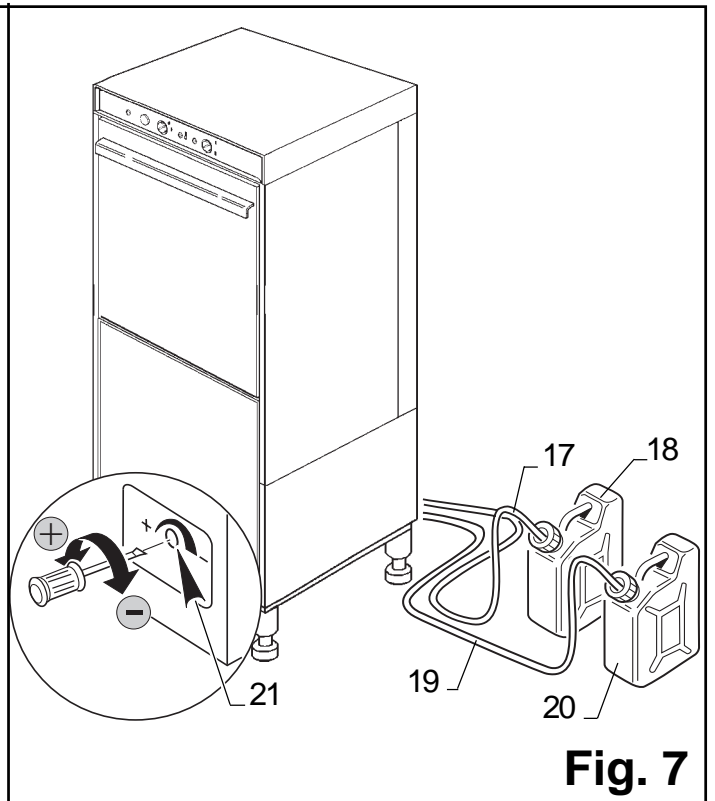

Fig. 7
- Insert the transparent tube (19) into the cannister (20) containing rinsing agent. (Refer to the specific instructions given with the rinsing agent itself).
3.2.a Adjusting the dose (Fig. 7)
- Regulate by means of the plug (21), turning clockwise to decrease the quantity or anticlockwise to increase it.